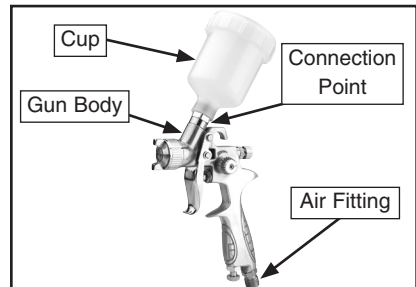

Figure 3. Cup installed.
2. Attach the cup to the gun body as shown in **Figure 3**.